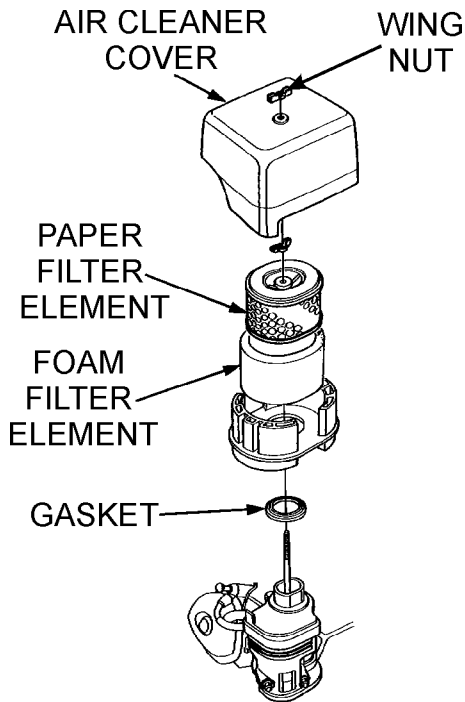

Figure 15. Air Cleaner
1. Remove the air cleaner cover and foam filter element as shown in Figure 15.
2. Tap the paper filter element (Figure 15) several times on a hard surface to remove dirt, or blow compressed air [not exceeding 30 psi (207 kPa, 2.1 kgf/cm²)] through the filter element from the air cleaner case side. **NEVER** brush off dirt. Brushing will force dirt into the fibers. Replace the paper filter element if it is excessively dirty.